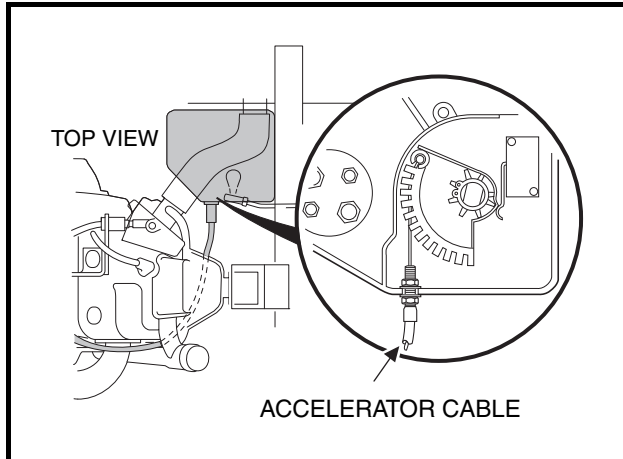

Figure 16-51 Connect Cable to Cam
28. Connect accelerator cable to actuator cam in the electrical box. Position the accelerator cable in mounting slot in the wall of the electrical box and tighten mounting nuts to 18 in-lb (2.0 N·m) (**Figure 16-51, Page 16-21**). Install electrical box cover and tighten mounting screw to 18 in-lb (2.0 N·m).